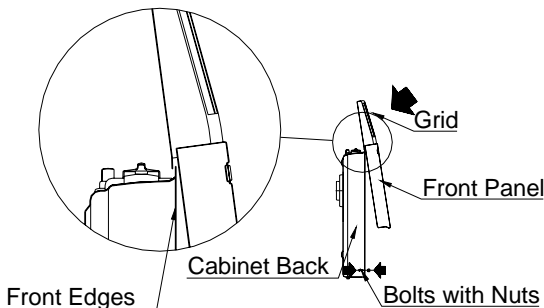

Fig. 13
- Slide the front panel through the front edges of the cabinet back as shown in figure 13.